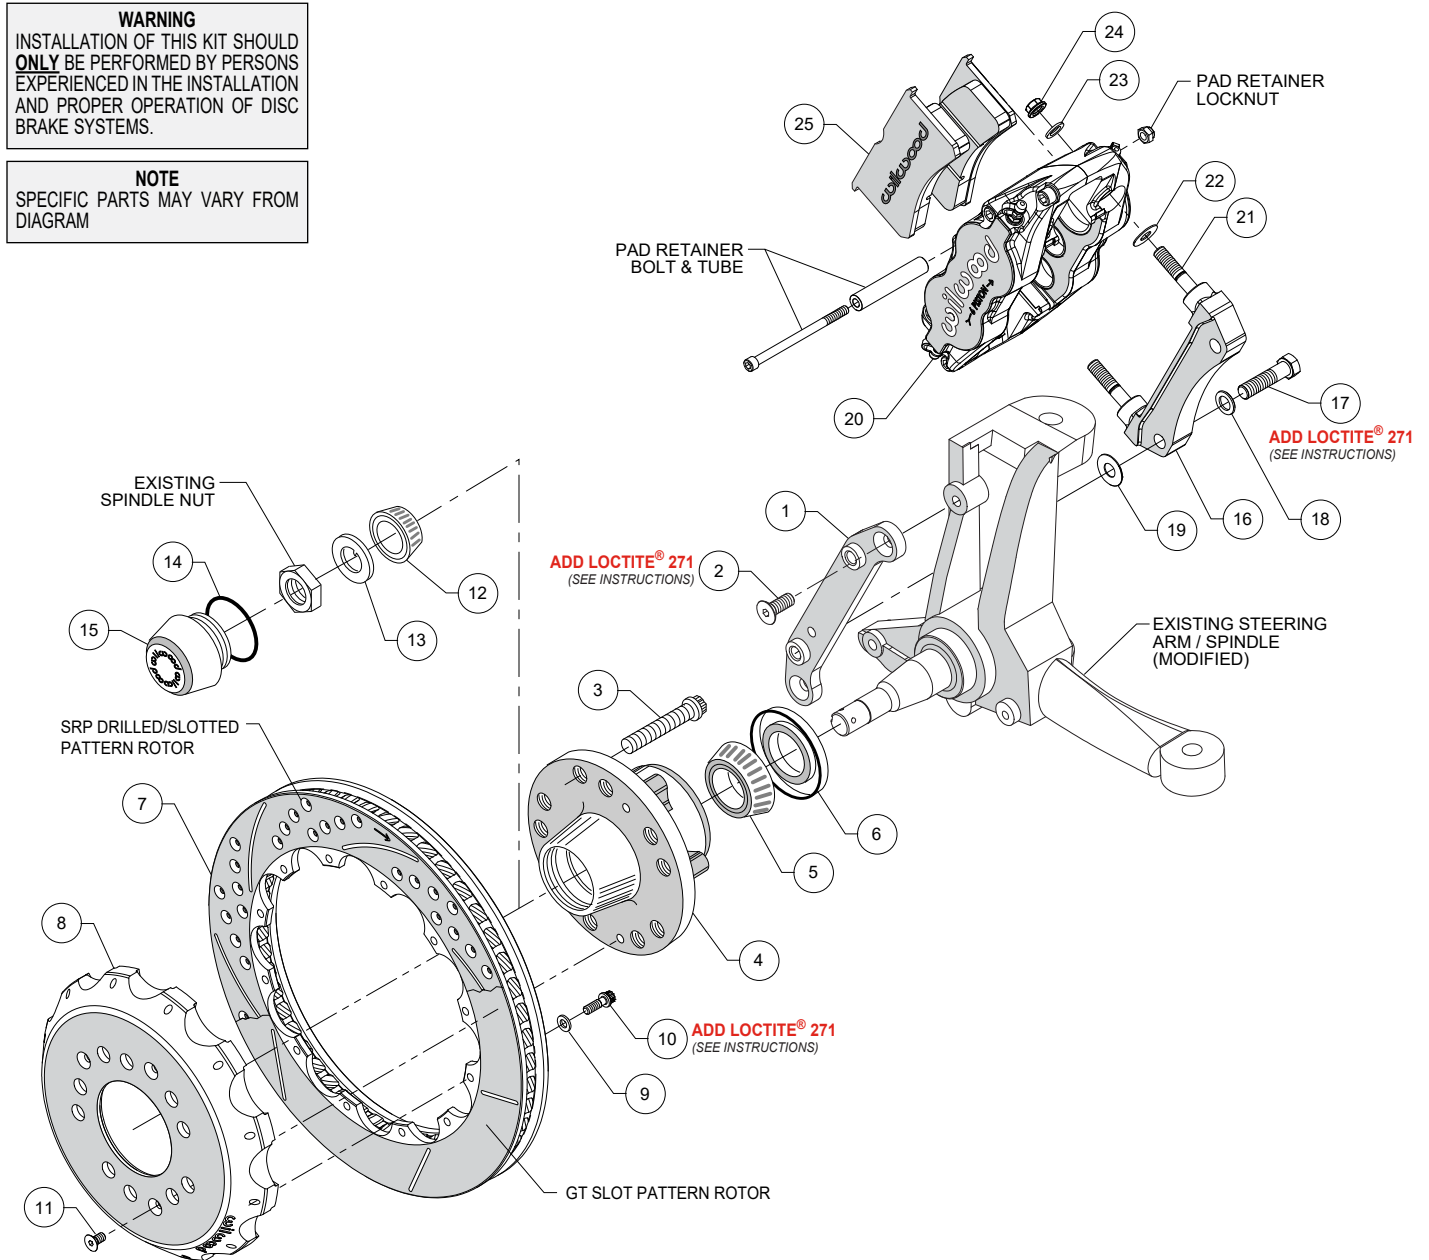
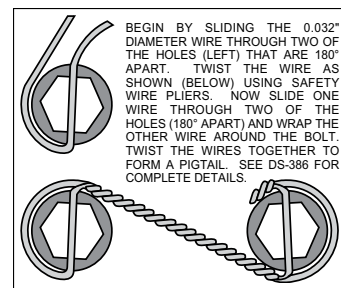

Figure 2. Typical Installation Configuration
Figure 4. Safety Wire Diagram
NOTE: Numbers in parenthesis refer to the parts list on the preceding page and Figure 2.
- Orient the caliper mounting flat bracket (1) as shown in Figure 2 and install using bolts (2), Photo 1. **NOTE:** Be sure the heads of the flat mount bracket clinch nuts (1) are facing outward toward the wheel. Temporarily tighten the mounting bolts. **NOTE:** The bracket must fit squarely against the mount bosses on the upright. Inspect for interference from casting irregularities, machining ridges, burrs, etc. After the bracket fitment has been checked, remove the bracket mounting bolts (2) one at a time, apply red *Loctite*® 271 to the threads and torque to 30 ft-lb.
- Install five new wheel studs (3) into the hub (4). Torque to 77 ft-lb. **NOTE:** There are two five lug patterns in the hub (5 x 4.50 and 5 x 4.75). Make sure of the correct hole pattern for the correct wheel application before installing studs into hub.
- Pack the large inner bearing cone (5) with high temperature disc brake bearing grease (available from your local auto parts store) and install into the backside of the hub (4).
- Install the grease seal (6) by pressing into the backside of the hub (4).
- Pack the small outer bearing cone (12) with high temperature disc brake bearing grease and install into front side of the hub (4). Slide the hub assembly (4, 5, 6 and 12) onto the spindle. Secure using spindle washer (13), stock adjusting nut, and nut locking device. Adjust wheel bearing pre-load per Original Equipment Manufacturer (OEM) specifications.
- Install the o-ring (14) and the dust cap (15) into the hub (4). **NOTE:** O-ring (14) friction will not allow cap (15) to unscrew on its own.
- With the larger I.D. side of the rotor (7) facing away from the hat (8), bolt rotor (7) to hat (8) through the backside of the rotor using washers (9) and bolts (10). Apply red *Loctite*® 271 to the bolt threads and torque to 155 in-lb using a criss-cross pattern. For an added measure of security, the bolts may be safety wired using standard 0.032 inch diameter stainless steel safety wire as shown in Figure 4. Please refer to Wilwood's data sheet DS-386 (available at www.wilwood.com/Pdf/DataSheets/ds386.pdf) for complete safety wire installation instructions.
- Slide the rotor/hat assembly over the studs (3) in the hub (4) taking care to align the small countersunk holes in the hat (8) with the small threaded holes in the hub (4). Install three flat head socket head screws (11) through the small holes in the hat (8) and torque to 85 in-lb. Check to be sure the hat seats squarely against the hub face.
- NOTE:** Please reference the caution statement at the beginning of the assembly instructions. The radial mount caliper bracket (16) should initially be installed with clean, dry threads on the mounting bolts (17). Orient the bracket, as shown in Figure 2 and install using bolts (17) and washers (18). Initially place one .030" thick shim (19) on each bolt between the radial mount caliper bracket (16) and caliper mounting flat bracket (1), Figure 2. Temporarily tighten the mounting bolts. Later, after the caliper alignment has been checked, the mount bolts will be secured using red *Loctite*® 271.
•**NOTE:** This kit contains distinct right and left hand calipers that must be mounted in a specific direction, as described in below. Initially place one .035" shim (22) on each stud between the caliper and the bracket, as shown in Figure 2. Mount the caliper (20) onto the radial mount caliper bracket (16) using lock nuts (24) and washers (23), Figure 2. Ensure that the caliper is mounted so the largest pistons are at the rotor exit end of the caliper, in relation to the forward direction of rotor rotation. Temporarily tighten the lock nuts and view the rotor through the top opening of the caliper. The rotor should be centered in the caliper. If not, adjust by adding or subtracting .030" shims (19) as necessary between the radial mount caliper bracket (16) and the caliper mounting flat bracket (1). Always use the same amount of shims on each of the two mounting bolts (17). Once the caliper alignment is correct, remove the radial mount caliper bracket bolts (17) one at a time, apply red *Loctite*® 271 to the threads, and torque to 47 ft-lb.
•Remove the caliper pad retainer bolt, locknut, and tube from the caliper. Slide the brake pads (25) into place. They should install easily without interference. Check that the outside radius of the brake pad is flush with the outside diameter of the rotor face. Add or subtract shims (22) between the caliper and mount bracket to gain the proper alignment. Reinstall the caliper and torque the caliper nuts (24) to 30 ft-lb. Reinstall the pad retainer tube, bolt, and locknut. The locknut should be snug without play in the bolt or tube. Be cautious not to over tighten.